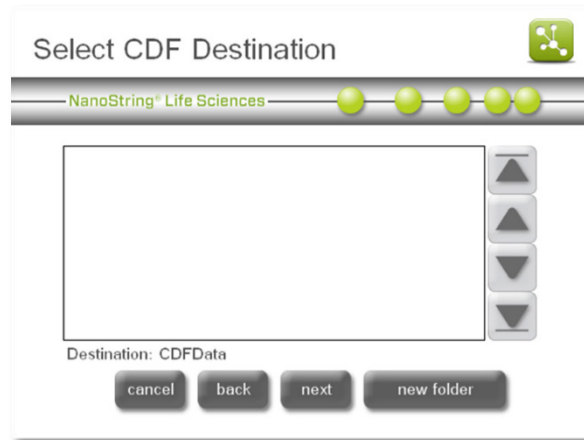

Figure 65: The 'Select CDF Destination' screen.
- The 'Select CDF Destination' screen will appear (**Figure 65**). Browse to the folder CDFData and press **save**.